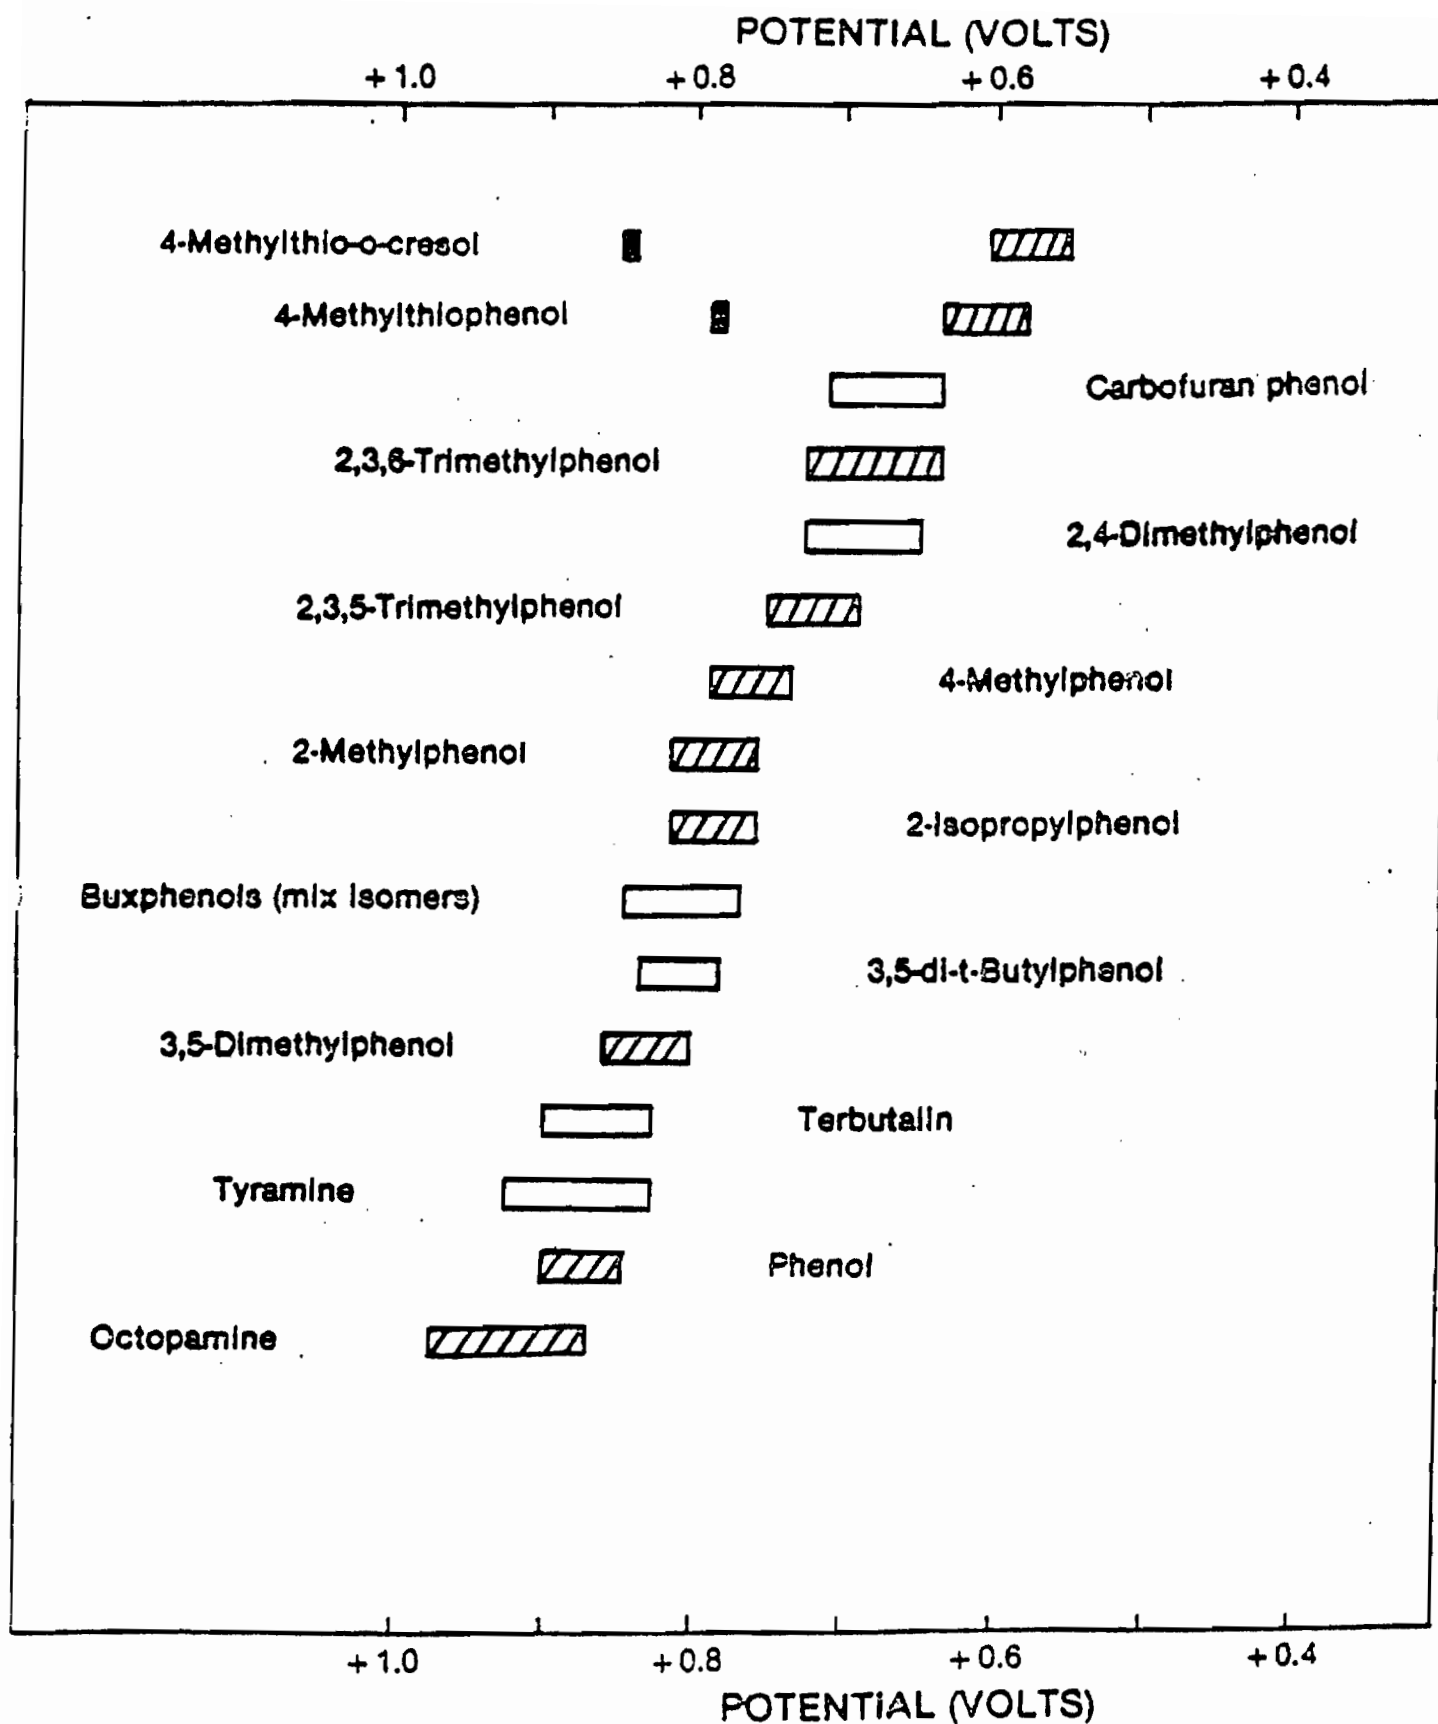

Figure 3 Oxidative Cyclic Voltammetric Data for Selected Alkylphenols of Environmental Interest.
- Figure 3 Oxidative Cyclic Voltammetric Data for Selected Alkylphenols of Environmental Interest.